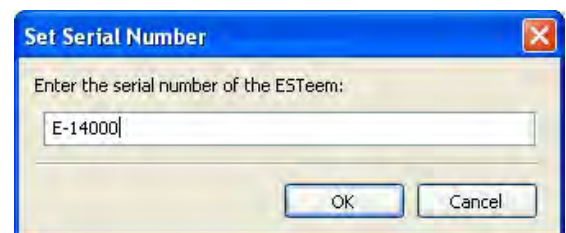
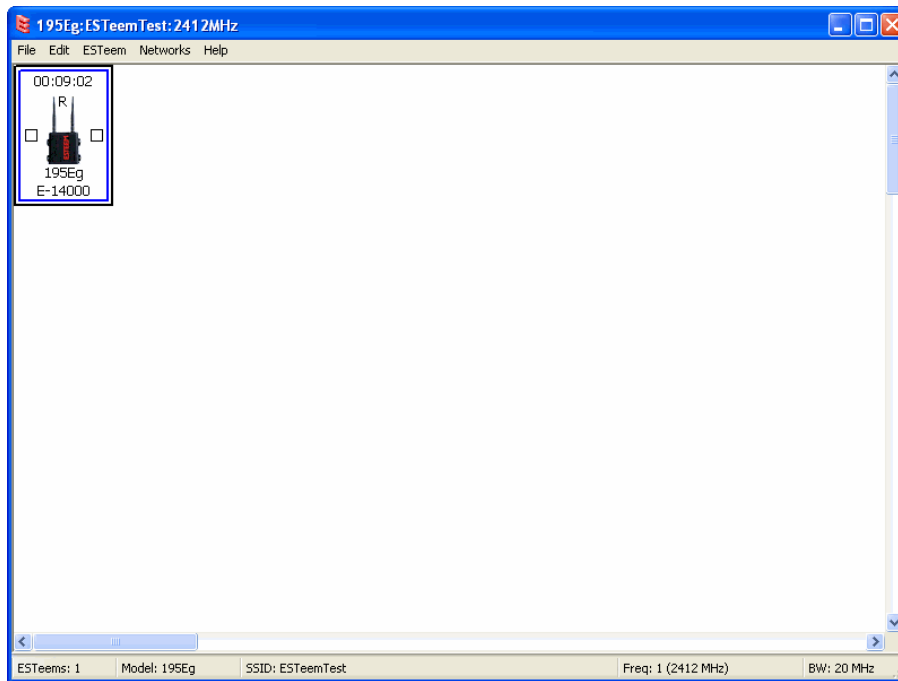

Figure 10: Enter the Serial Number
Figure 11: Main Office ESTeem 210
2. Enter in the ESTeem Model 210 serial numbers used for the example (for example enter E-14000 in the Set Serial Number Box) and press the OK button (Figure 10). The ENC Utility will look up the ESTeem 210's serial number in the database and match the correct Wireless LAN MAC (WLAN MAC) address to the modem. This WLAN MAC address will be displayed above the modem symbol on the screen (Figure 11).